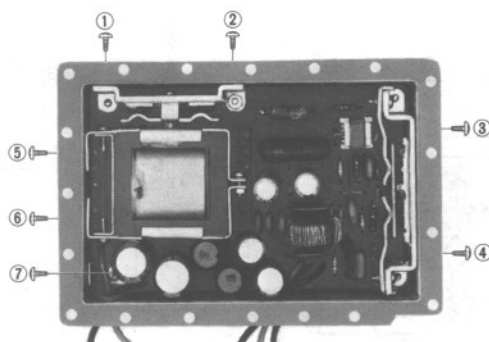

Fig. 4
4. Remove 7 setscrews ① ~ ⑦ in Fig. 4 which secure the printed circuit board.
6. When installing, tighten setscrew No. ⑩ together with lug terminal.